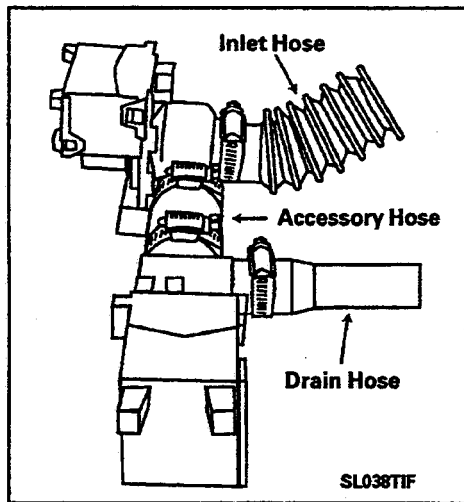

Figure 2-24
- Position the second pump near the first pump and connect the accessory connector to the sump intake of the second pump. Secure with the clamp in the kit (*Figure 2-24*).